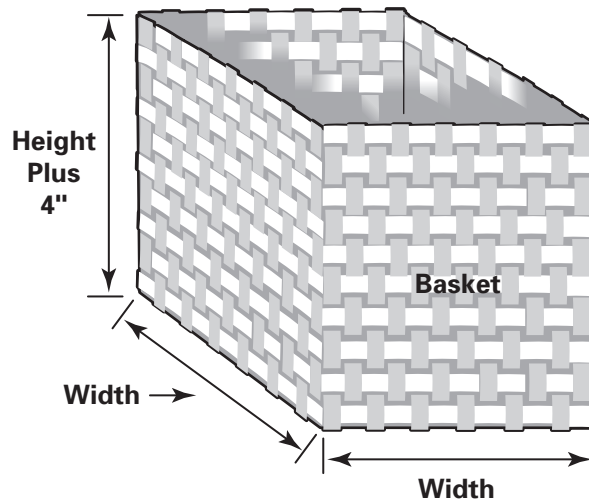

Fig. 20-2
1. Because there are so many shapes and sizes of crates and baskets, the best way to determine the yardage needed is to measure the one you will be lining. Take the following measurements, adding the seam and height allowances, as shown in Fig. 20-2: